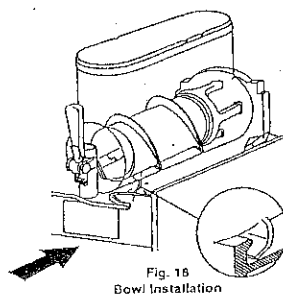

Fig. 18
6. Push the bowl towards the rear wall of the unit until it fits all the way around the gasket and its bottom fastening hooks are properly engaged (Fig. 18)